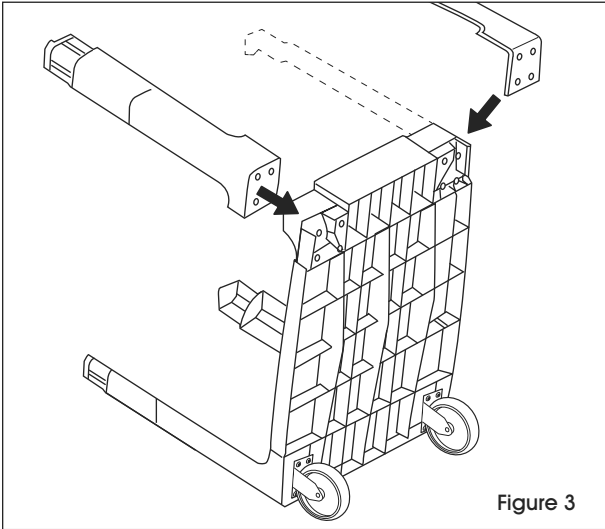

Figure 3
5. Turn the cart on its side so the supports are laying on the ground. (See Figure 3)